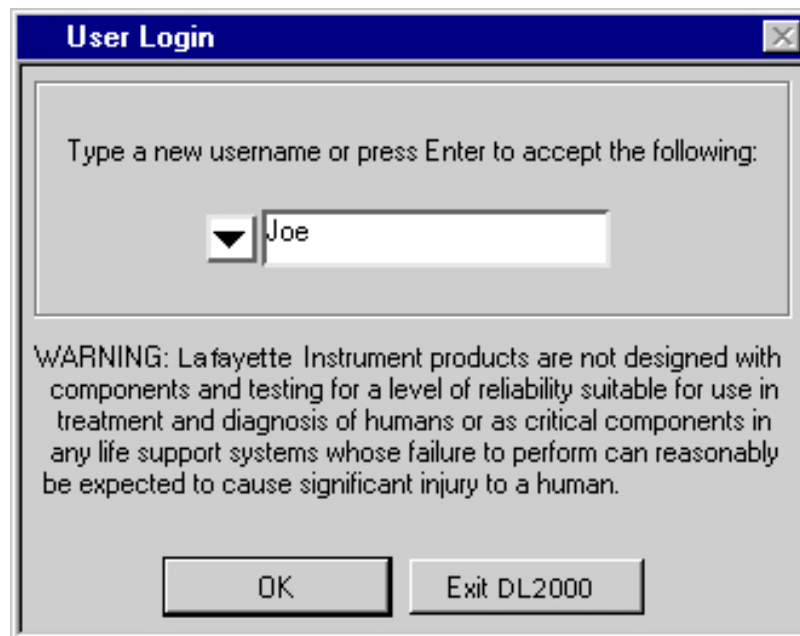

Figure B-1. User Login Dialog Box
2. Launch DataLab 2000 and log in. Figure B-1 shows the User Login, dialog box.